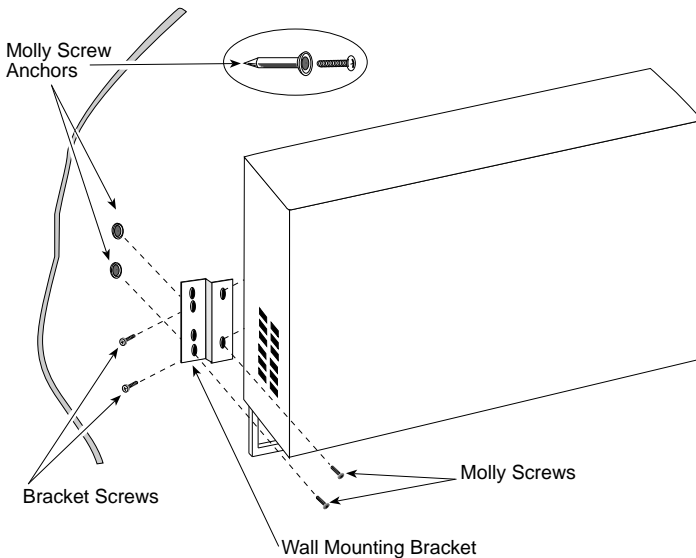

Figure 3-6. Installing the Wall Mounting Brackets
When you wall mount the SEH, the cable connections must face down. Refer to Figure 3-6 and perform the following steps to wall mount the SEH.
1. Use the supplied screws to attach the wall mounting brackets to the bottom of the SEH as shown in Figure 3-6. There are two brackets, one for each side.
6. Position the SEH on the wall over the anchors and reinstall the four anchor screws to attach the SEH to the wall, as shown in Figure 3-6. Tighten the four anchor screws.